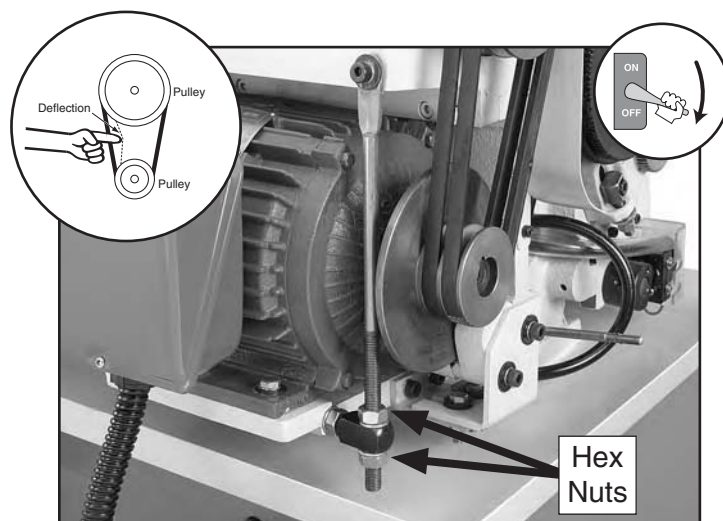

Figure 130. V-belt tension adjustment hex nuts (viewed with headstock left cover removed).
3. Adjust the hex nuts shown in **Figure 130** in even amounts to lower the motor assembly until there is approximately $\frac{3}{8}$ " deflection on each belt when moderate pressure is applied between the pulleys.